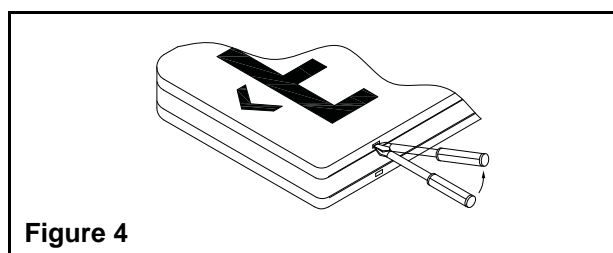

Figure 4
2. Using a flat head screwdriver, insert the blade into the slots and gently pry off the front cover (see figure 4).